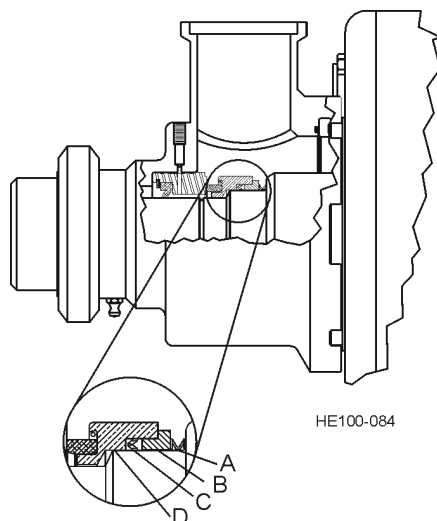

Figure 64 - Orientation of Seal Components
1. Place the wavy washer spring (See Figure 64, Item A) on the shaft.
2. Install the seal back-up ring. (See Figure 64, Item B).
3. Install the U cup seal with the opening facing toward the product side, as shown in Figure 64, Item C.
4. Place the seal body (See Figure 64, Item D) on the shaft, aligning the slots with seal drive pins.